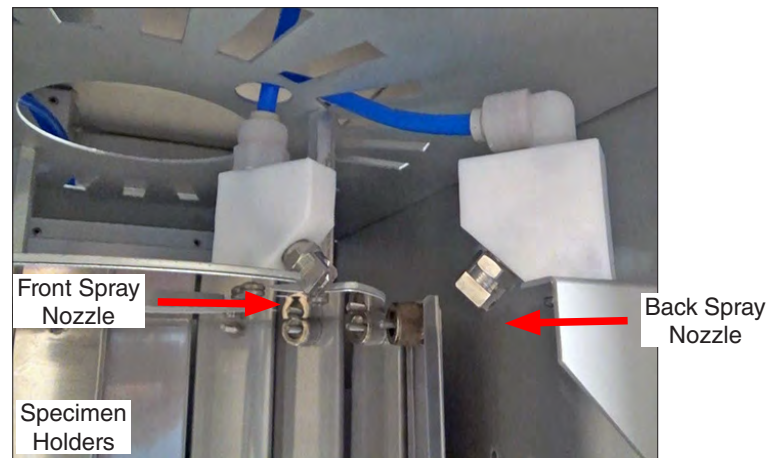

Figure 10.2a: Xe-2-HBSE Back spray nozzle location.
- In addition to the front spray nozzle, the Xe-2-HBSE has a second nozzle located near the top of the chamber (Figure 10.2a).